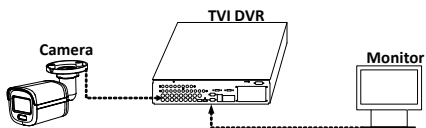

Figure 3-1 Connection
1. Connect the camera with the TVI DVR and the monitor, as shown in figure 3-1.